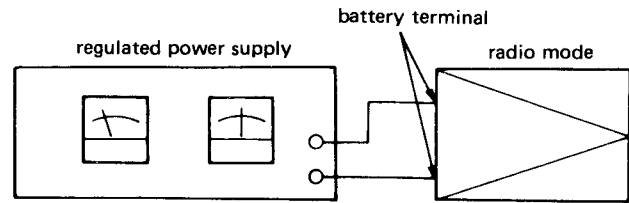

Figure 16-1
- 1) Connect a regulated power supply (DC 14.8 V) to the battery terminal. See Fig. 16-1.